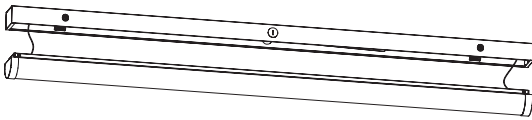

FIG. 1
2. Detach the lens assembly from the fixture by pushing the 2 buttons on each side of the fixture. (Figure 1)